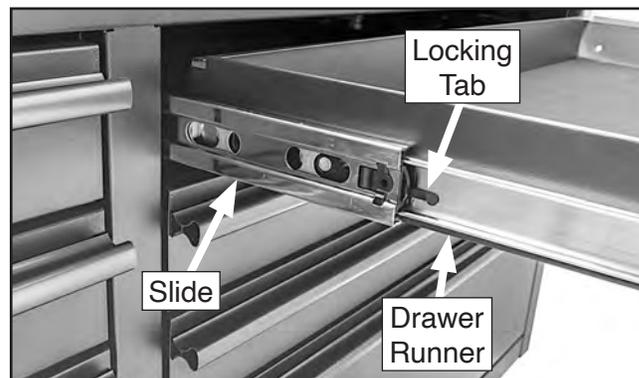

Figure 5. Location of drawer components (left side shown).
2. Lift left locking tab up and hold, then press right locking tab down and hold (see **Figure 5**).
4. To install, insert drawer runners into slides (see **Figure 5**) and push drawer completely in. Locking tabs will automatically snap into place to secure drawer in slides.